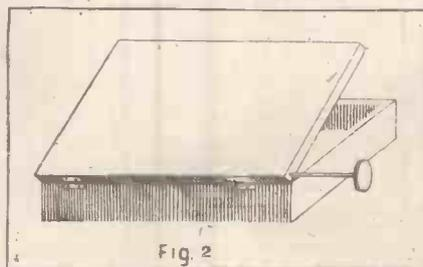

Fig. 2
Assuming that the reader has adopted the suggestion regarding the receptacles for the basket coils, the method of making these will be explained. Using $\frac{1}{4}$ 3-ply wood, construct two boxes 5 in. square and $1\frac{1}{2}$ in. deep, and hinge the lid as shown in Fig. 2.
This can be better seen than described, perhaps, and Fig. 2 (A) shows diagrammatically three condensers joined together in parallel.
If the three condensers are joined in series as shown in Fig. 2 (B), the resultant total capacity will be found to be less than that of any one of them taken separately, and is arrived at from the formula:
The skeleton plan Fig. 2 (last week's article) showed a scheme for controlling a
Fig. 2 shows a model shunt-wound electric motor which clearly shows the field magnet and armature windings connected in parallel.